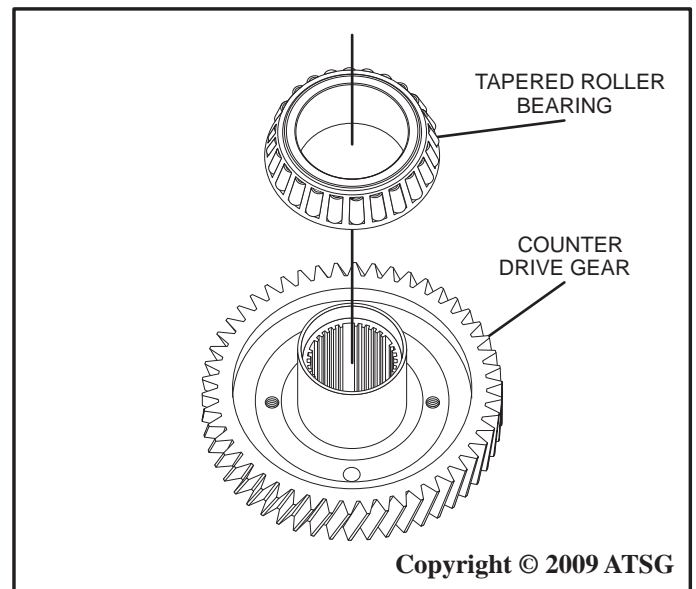

Figure 144
4. Coat the tapered roller bearing with a small amount of ATF, then using SST 09649-17010 or other suitable tool, press the tapered roller bearing onto the counter drive gear until it contacts the gear as shown in Figure 144.